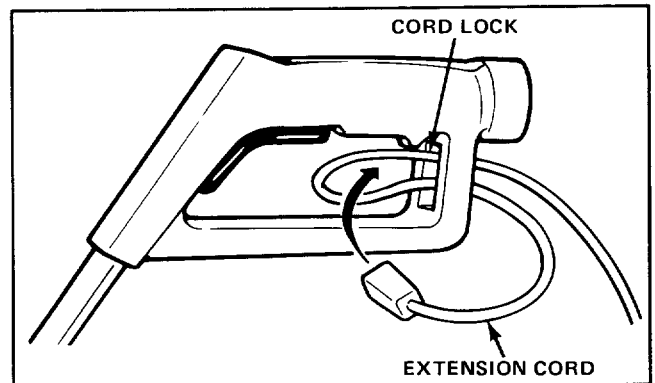

Figure 10
See Figures 10 & 11 for proper cord connection.
1. Secure a suitable extension cord in cord lock as shown in Figures 10 & 11.